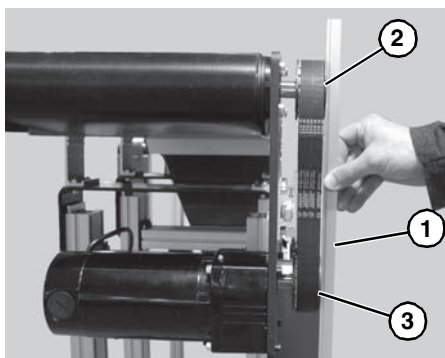

Figure 7
6. Using a straight edge (Figure 7, item 1), align driven pulley (Figure 7, item 2) with drive pulley (Figure 7, item 3).